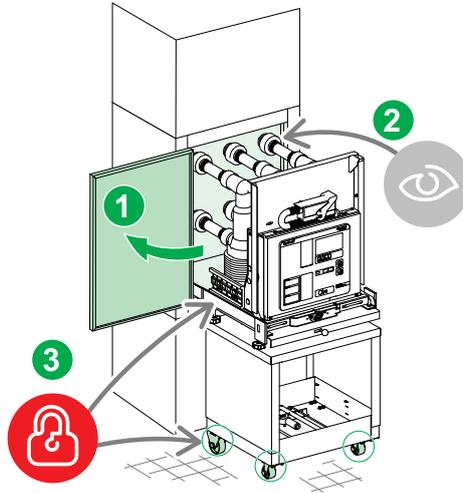

Figure 73
3. Position the transport trolley in front of the cubicle. Refer to the Figure 73.